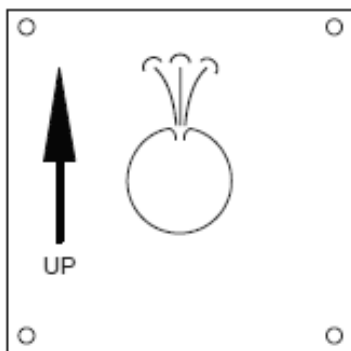

Figure 13c
- Insert the steam delivery tube/diffuser in duct and align arrow to point up. Fasten the steam diffuser to the duct using four #8 x 1/2" screws provided. in Kit #10S. Make sure the holes on the steam diffuser, where the steam exits from, are pointing up. Please see Fig. 13c.